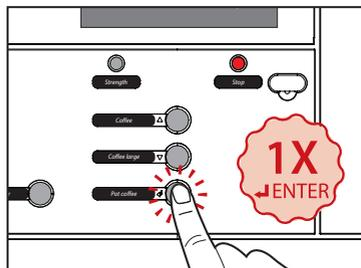

Fig.6
5. Press **ENTER** to continue the cleaning procedure (See Fig.6). The display will show: